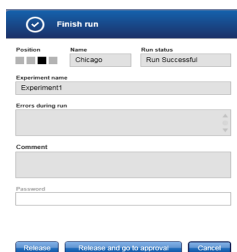

Figure 15. “Finish Run” dialog.
14. To view the run information and IDH1 assay results, click **Release and go to approval** (Figure 15). This also releases the Rotor-Gene Q MDx 5plex HRM instrument ready for the next run.